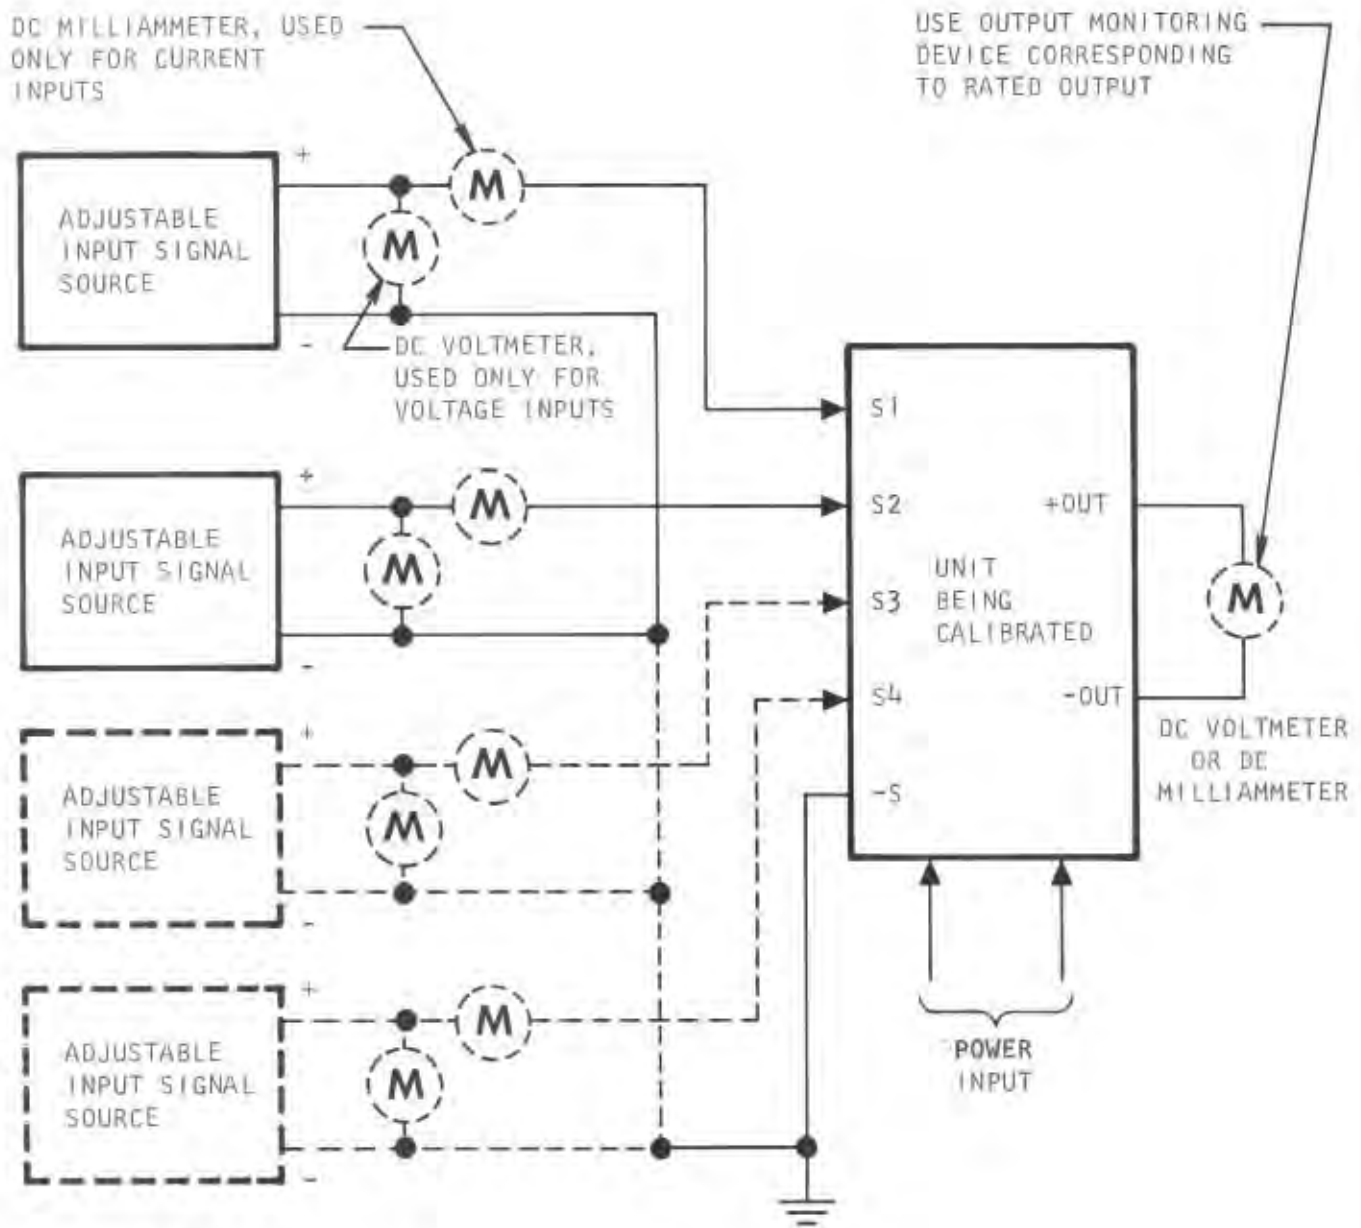

Figure 2-1. Test Equipment Setup for Calibration
1. Connect the unit and test equipment as shown in Figure 2-1, using the specified number of input signal sources.